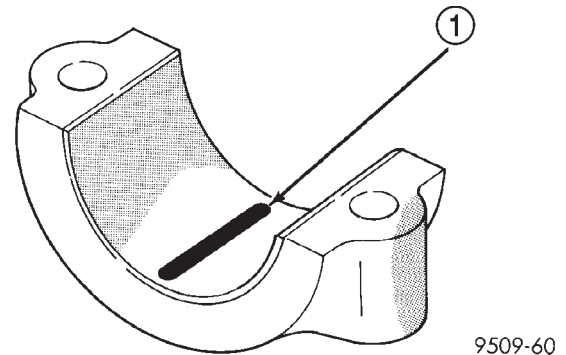
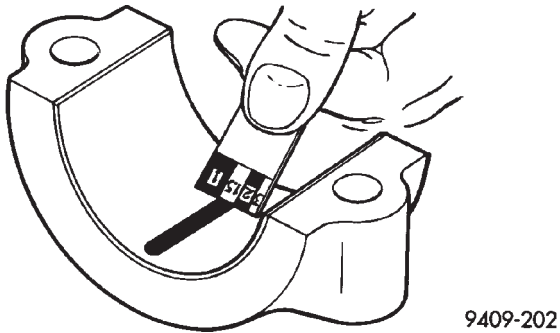

Fig. 5 Plastigage Placed in Lower Shell
Fig. 6 Clearance Measurement
(1) Remove oil film from surface to be checked. Plastigage is soluble in oil.
(2) Place a piece of Plastigage across the entire width of the bearing shell in the cap approximately 6.35 mm (1/4 in.) off center and away from the oil holes (Fig. 5). (In addition, suspected areas can be checked by placing the Plastigage in the suspected area). Torque the bearing cap bolts of the bearing being checked to the proper specifications.
(3) Remove the bearing cap and compare the width of the flattened Plastigage (Fig. 6) with the metric scale provided on the package. Locate the band closest to the same width. This band shows the amount of clearance in thousandths of a millimeter. Differences in readings between the ends indicate the amount of taper present. Record all readings taken. Refer to Engine Specifications. **Plastigage generally is accompanied by two scales. One scale is in inches, the other is a metric scale.**
(1) Rotate the crankshaft until the connecting rod to be checked is at the bottom of its stroke.
(2) Remove oil film from surface to be checked. Plastigage is soluble in oil.
(3) Place a piece of Plastigage across the entire width of the bearing shell in the bearing cap approximately 6.35 mm (1/4 in.) off center and away from the oil hole (Fig. 5). In addition, suspect areas can be checked by placing plastigage in that area.
(4) Assemble the rod cap with Plastigage in place. Tighten the rod cap to the specified torque. **Do not rotate the crankshaft while assembling the cap or the Plastigage may be smeared, giving inaccurate results.**
(5) Remove the bearing cap and compare the width of the flattened Plastigage (Fig. 6) with the scale provided on the package. Locate the band closest to the same width. This band indicates the amount of oil clearance. Differences in readings between the ends indicate the amount of taper present. Record all readings taken. Refer to Engine Specifications. **Plastigage generally is accompanied by two scales. One scale is in inches, the other is a metric scale. If the bearing clearance exceeds wear limit specification, replace the bearing.**